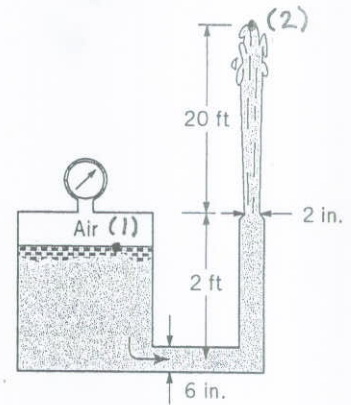

FIGURE P3.38
3.38 Water flows from a pressurized tank, through a 6-in.-diameter pipe, exits from a 2-in.-diameter nozzle, and rises 20 ft above the nozzle as shown in Fig. P3.38. Determine the pressure in the tank if the flow is steady, frictionless, and incompressible.